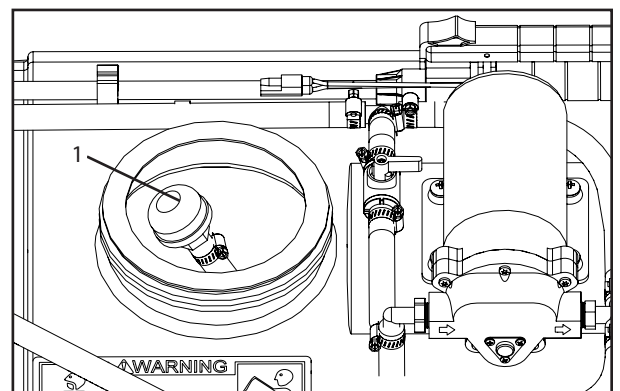

Figure 1: Checking Suction Screen
- The suction strainer (1) (Figure 1) located on the end of suction hose should be inspected and rinsed off on a regular basis.